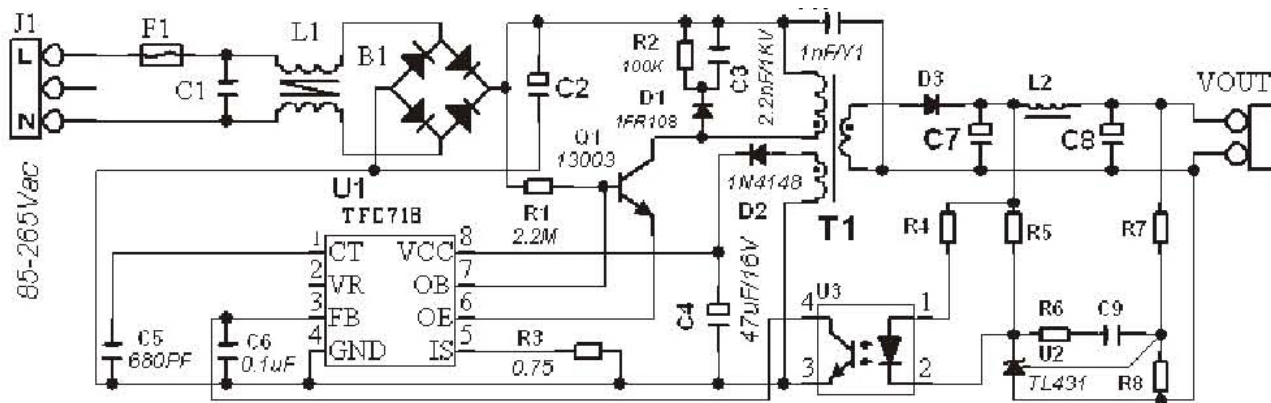
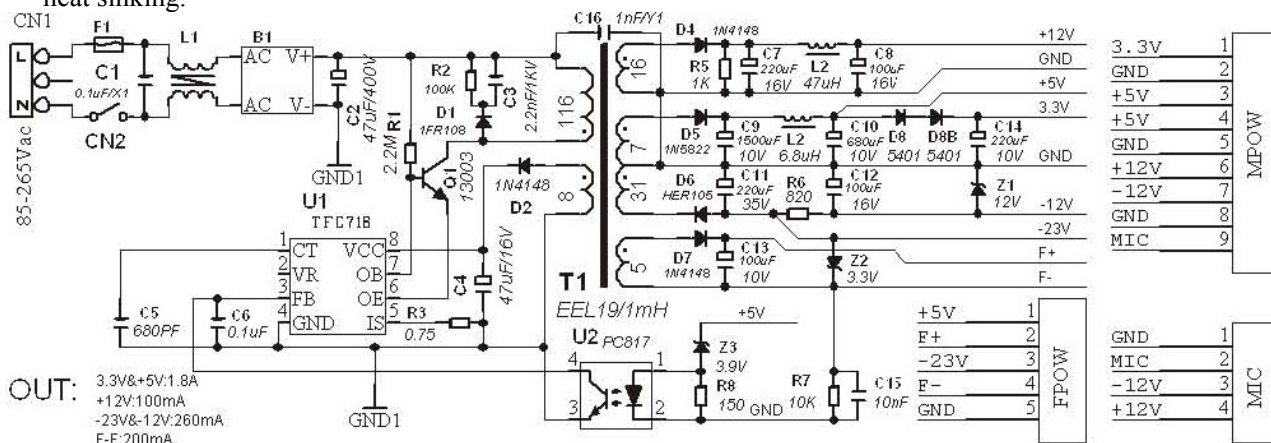

Figure 3: 18W Switching Power Supply
Figure 4: DVD Power Supply with Broad Voltage and Peak Value capable of reaching 18W
- The power supply enabling current is selected to 0.5 ~ 3mA, the amplification of the power tube can be calculated based on 10, then the selection of start-up resistor (such as R1 in Figure 3 and Figure 4) should ensure that the base current of the power tube to be 0.05 ~ 0.3mA at the time when the power supply starts. Therefore, it could reduce the power consumption of the start-up resistor by ten times and reduce the standby power consumption;
- In Figure 3 and Figure 4, C5 = 680pF, the maximum operating frequency is about 60KHz;
- Switching transformer (T1 in Figure 3 and Figure 4): The rectified output of the reference winding is 4.8 ~ 9V (the preferred value is 6V) providing working power supply to TFC718;
- Selection of the power tube: When the maximum peak current is 0.8A, by considering OB open current, the β value of the power tube should be 10@5V_{ce}@0.8A, the corresponding testing resistor (R3 in Figure 3 and Figure 4) should be 0.75ohm; in any current condition, the power tube should work in the saturation area and its testing resistor should be 0.6V/max. peak current;
- Application Case 1 (Figure 3): A 18 W switching power supply with its output voltage determined by the voltage ratio of R6 and R7, but the transformation ratio of switching transformer T1 should be considered.
- Application Case 2 (Figure 4): A DVD power supply with broad voltage and peak value capable of reaching 18W. The reason why it is said “peak value capable of reaching 18W” is that DVD needs a very short period of high power during its waiting for start-up and needs probably below 10W in all other times. So, it is possible to consider reducing the heat-sinking requirement for the power tube Q1, or even without using the heat sinking.